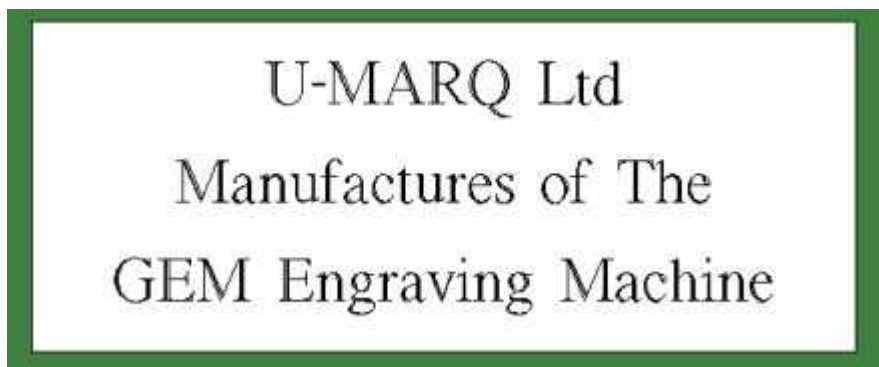

Figure 2
- 4 Left click in the white space under the Enter your Text here Box and type in your text. Pressing "Enter" at the end of each line. When you are finished left click on "OK" to proceed, you will see your plate ready to be engraved, on screen, see figure 2.